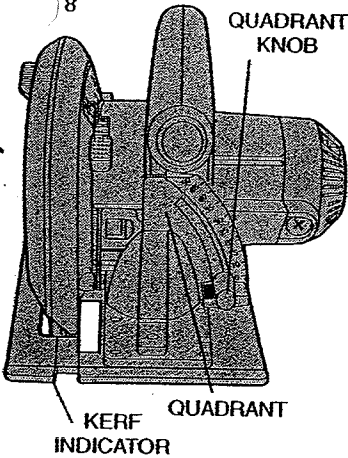

FIG. 10
- Place saw on blade side (Figure 10). Retract blade guard.
- Loosen quadrant knob. (Figure 10). Place a square against the blade and shoe to adjust the 90° setting.